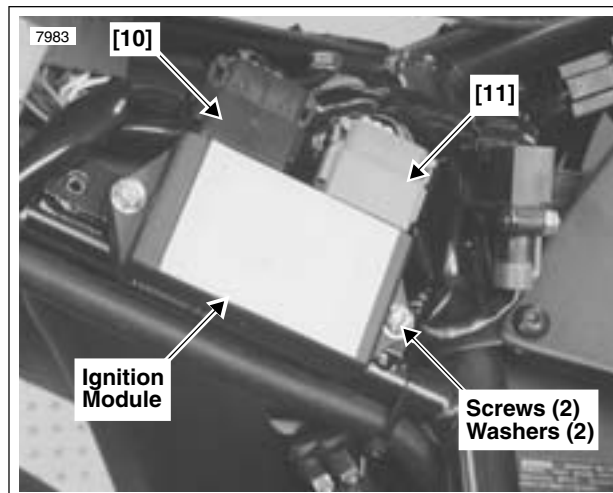

Figure 7-11. Ignition Module
5. See Figure 7-11. Remove two screws and washers to detach ignition module from frame.
1. See Figure 7-11. Fasten ignition module to frame using two screws and washers.